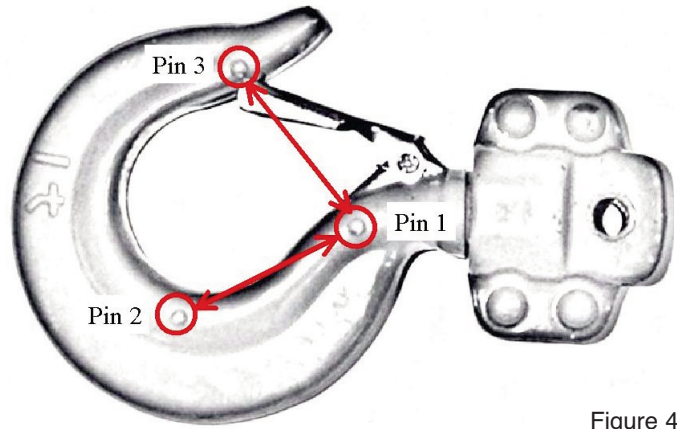

Figure 4
- (1) New style hooks (see Figure 12, page 16) have elongation marks that are measured by comparing the distances between pins 1 and 2 and pins 1 and 3. The difference between these distances should be no more than 5 mm as shown in Figure 4.